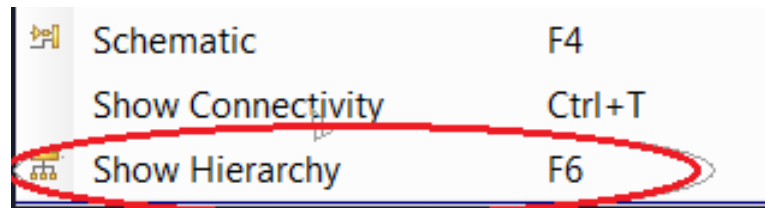

Figure 20: Show Hierarchy Option
2. Select **Show Hierarchy**, as shown in Figure 20, page 29. You can also press **F6** to open the Hierarchy window.